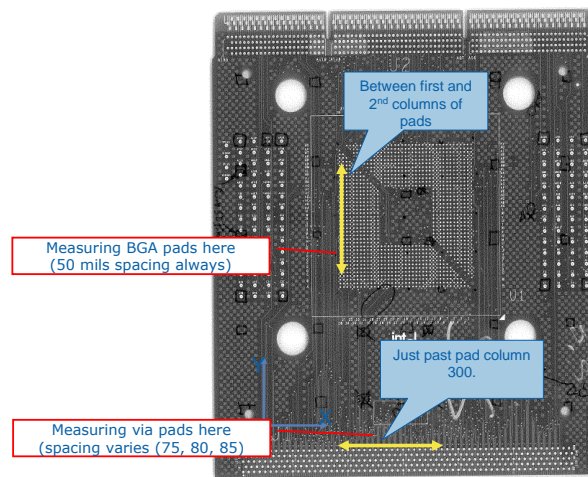

Figure 11: Layout for Measuring Positional Distortion
Measurements of relative position of key features (BGA pads, vias) were made in the Horizontal (X) and Vertical (Y) directions – see Figure 11.